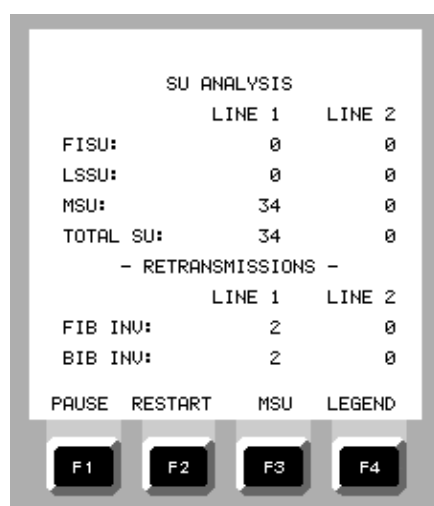

Figure 2-137. SU ANALYSIS Display
1. Starting from the SS7 CAPTURE/ANALYSIS setup screen, arrow down to SU/MSU ANALYSIS and press ENTER. The display changes to the SU ANALYSIS display (Figure 2-137).